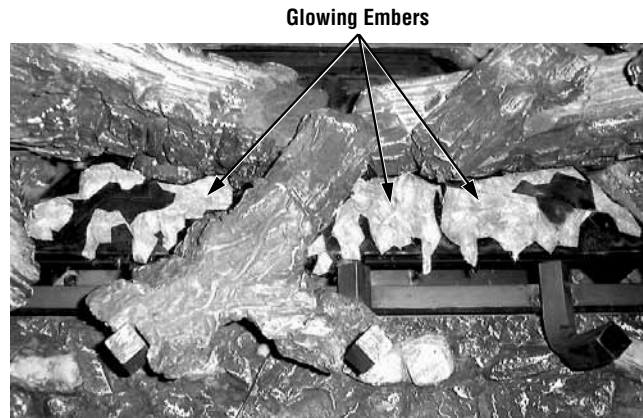
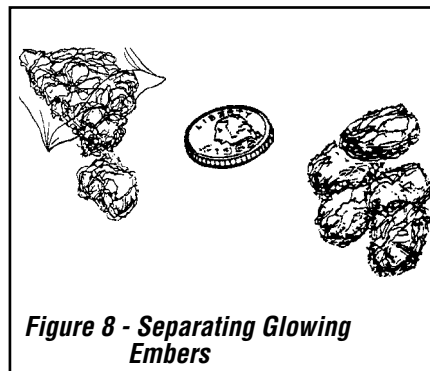

Figure 7 - Glowing Ember Placement
Figure 8 - Separating Glowing Embers
Step 3. Separate the glowing embers into pieces about the size of a quarter (**Figure 8**). Keep the pieces fluffed up, not matted. Distribute these pieces over the front surface of the burner, as shown in **Figure 7**. Do not use more than is necessary. When properly positioned, the glowing embers will cover approximately 65% of the front burner and with no appreciable gaps or openings. Ensure that the main burner ports remain uncovered by the ember material.
Position the individual logs as shown below. Logs should be placed in the order shown. Position the center log on the burner first, then place the glowing embers as shown in **Figure 7**. Place the rear log, both the right and left, and then the smaller left and right top logs. All logs that have notches to fit over the grate tines should be positioned with these notches directly against the grate. All top logs that rest on lower logs, do so over flattened mounting faces in the bottom logs.